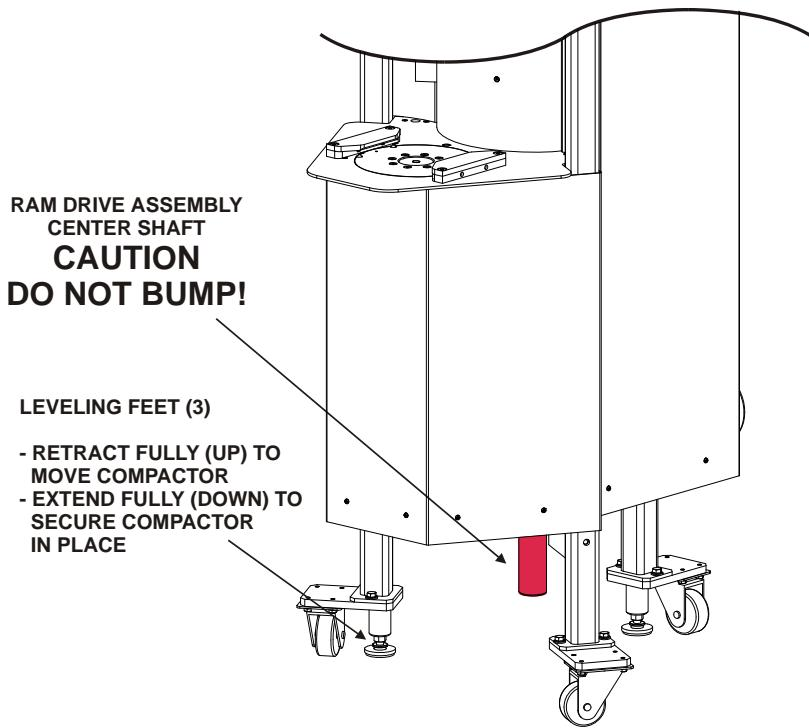

Figure 2–1. Ram Drive Assembly Center Shaft and Leveling Feet
- ✓ Adjust the three leveling feet (see Figure 2–1) until they are fully retracted (up) into their mounting posts.